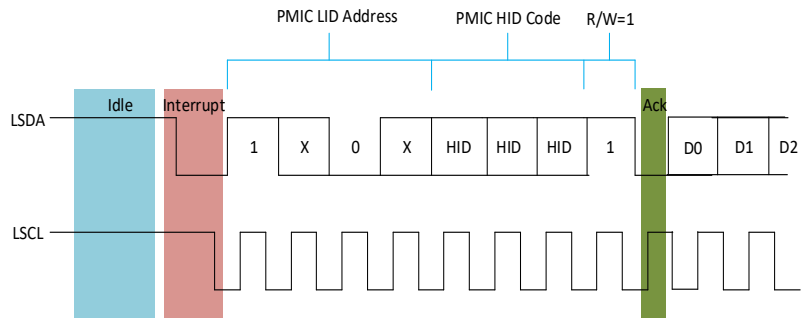

Figure 25 — PMIC Requests Interrupt, Host Ack followed by PMIC Device IBI Payload
- The Host sends ACK on 9th bit to accept the interrupt request. At this point, if the PMIC device confirms that it has won the arbitration, the PMIC device transmits the IBI payload as shown in Table 43 and Table 44 for PEC disabled and PEC enabled configuration respectively. See Figure 25. Figure 25 just shows only first two data bits of the MDB byte to illustrate the timing. The interrupt payload contains MDB followed by Table 94, “Register 0x08”, Table 95, “Register 0x09”, Table 96, “Register 0x0A”, Table 97, “Register 0x0B”, and Table 137, “Register 0x33” bytes. The host then issues the STOP command. Note the timing waveform in Figure 25. The host then accepts the IBI payload if it sends an ACK on 9th bit to accept the interrupt request. The host can interrupt the IBI payload at T bit. If host stops the IBI payload at T bit in the middle of payload, the PMIC retains the IBI status flag (Table 96, “Register 0x0A” [1]) and Pending Interrupt Bits [3:0] internally and waits for the next opportunity to request an interrupt. If the PMIC device successfully transmits the entire IBI payload, it then clears IBI status flag (Table 96, “Register 0x0A” [1] = ‘0’) and Pending Interrupt Bits [3:0] = ‘0000’ on its own and does not request for an IBI again unless there is another different event occurs; for another same event, the device does not request for an IBI.